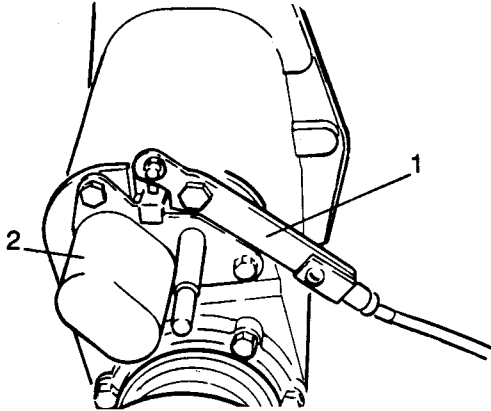

Fig H1.94
- (1) Refer to Fig H1.94. Remove the four wheel drive lever (1) together with its pin.
- (2) Remove the dust cover (2) from the selector shaft assemblies, together with its gasket.
(1) Refer to Fig H1.103. Change all components that show signs of wear or damage. Examine the four wheel drive lever bush, replacing if necessary (see Fig H1.94).
- (2) Inspect the four wheel drive selector shaft (1) and replace if necessary.
- (3) Examine the four wheel drive selector fork (2).
- (4) Check the four wheel drive selector fork springs (3) which should have a free length of 69 mm.
- (5) Check for wear the high and low selector shaft (4).
- (6) Check the high and low selector shaft spring (5) which should have a free length of 182 mm.
- (7) Check the front output shaft bush (6) replacing it if necessary.